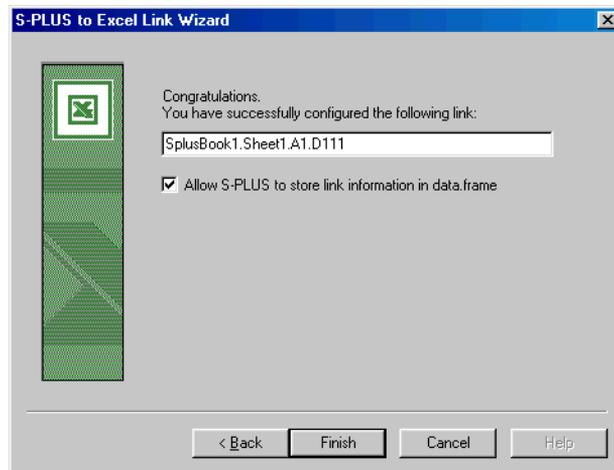

Figure 10.9: The final page of the wizard.
6. Figure 10.9 shows the last page of the wizard. Spotfire S+ automatically generates a default name of the form **SplusBook1.Sheet1.A1.D111** for the link. If you prefer, you can type a different name for the new link in the text box.